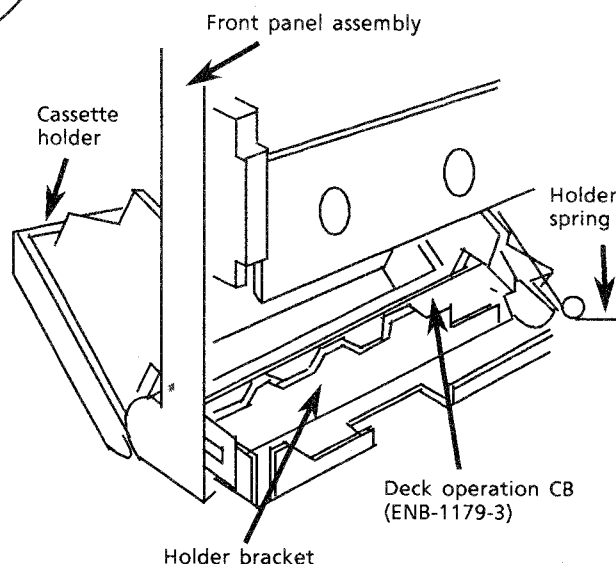

Figure 6
2. Remove the holder springs (Figure 6).
2. Remove the 2 screws ① fixing the circuit board to pull out the circuit board upward.
■ Removing the deck operation circuit board (ENB-179-3: Figure 6)